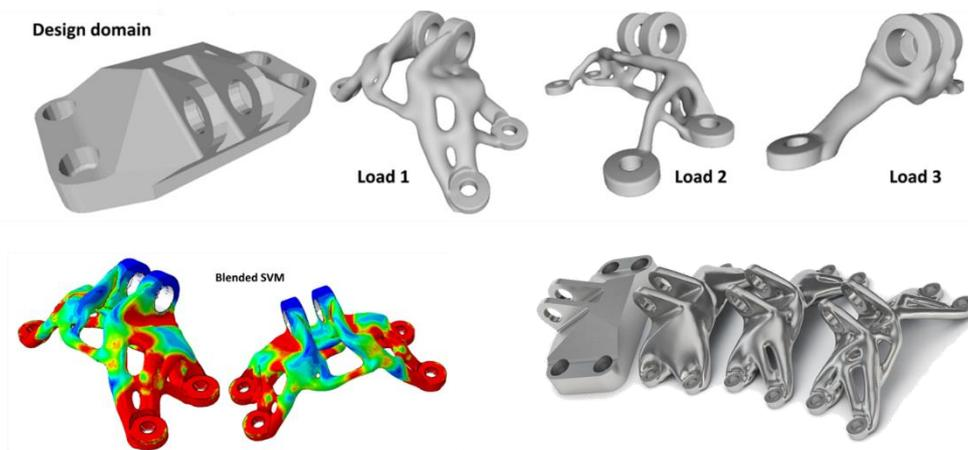
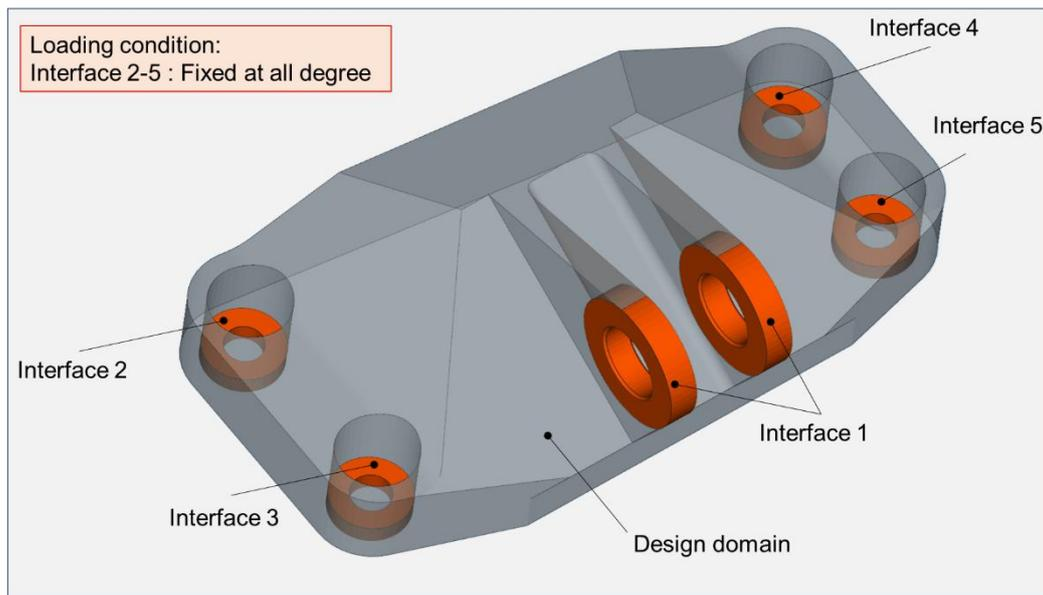

Figure 1. Optimization for GE bracket
Figure 2 Original domain of GE bracket
Loading bracket is a critical component in jet engines: they must support the engine's weight during handling without distortion or breaking. Topology optimization is usually employed to determine the most-efficient material distribution under the given loading conditions, as shown in Figure 1. This project is to optimize the topology of a bracket (design domain), as shown in Figure 2.
1. As shown in Figure 2, to optimize a bracket: